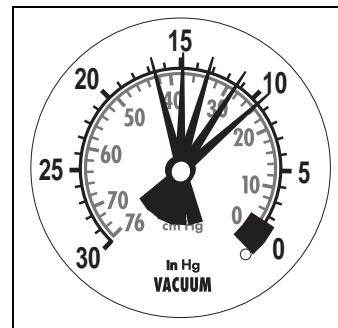

Figure 9
4. **Leaking head gasket, worn valve guides or weak/broken valve springs (Figure 9)**